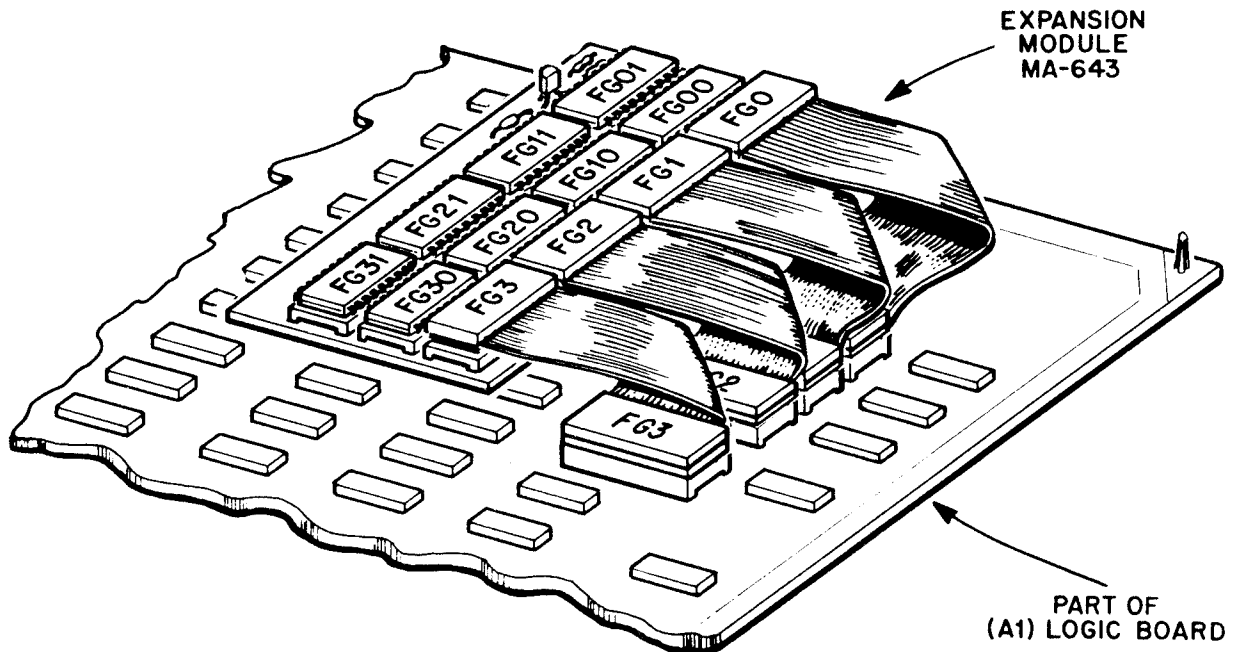

FIGURE 1.
- THE FOREGROUND OBJECT ROM (EXPANSION MODULE, MA-643) CONSISTS OF FOUR SERIES PAIRED 2764'S WHICH HAVE THE SUM EQUIVALENT OF DOUBLING THE MEMORY CAPACITY REQUIRED FOR THE Q*BERTS QUBES (GAME GV-119). THE LOGIC PROM KIT UTILIZED IS PK-119. SOUND PROM KIT USED IN THIS GAME IS PKS-119. SEE FIGURE 1. FOR LOCATION OF THE EXPANSION MODULE AND FIGURE 2. FOR THE SCHEMATIC DIAGRAM. THIS CIRCUIT MODIFICATION REPLACES THE K4, K5, K6 AND K7-8 PORTION OF LOGIC BOARD ASSY.(A1), SCHEMATIC DIAGRAM BOTTOM OF PAGE 21, SHEET 3 OF 3.